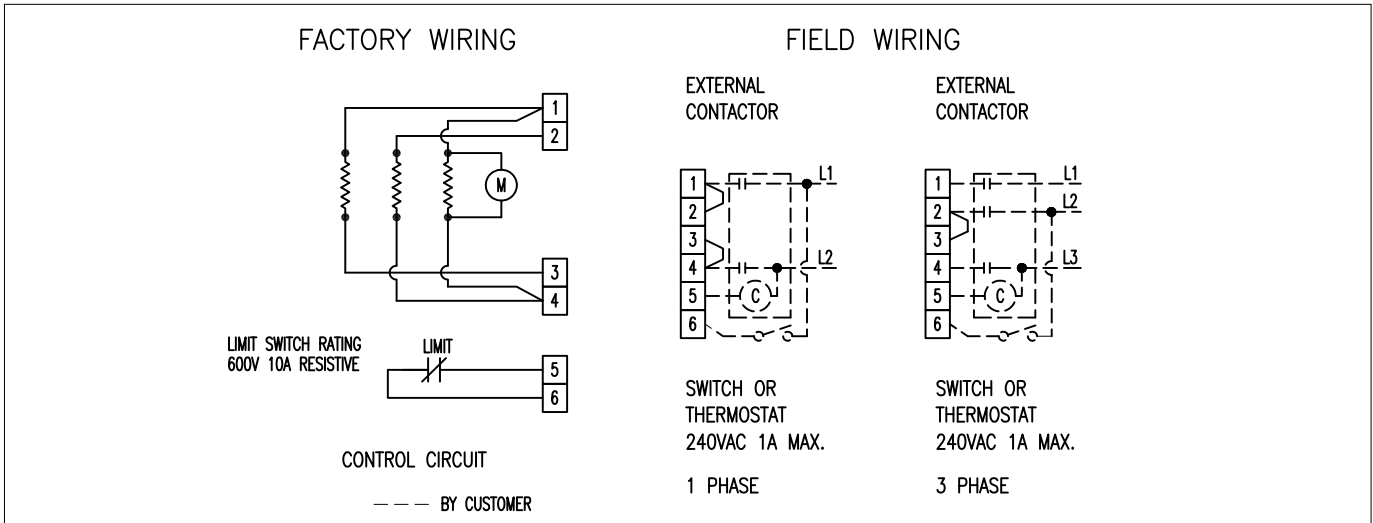

Figure 2E - RGE Series 15–40 kW wiring schematic with hi-limit option. 208–600 V models.
4. Models without a built-in contactor should have the limit switch wired in the control circuit of an external contactor, and for three phase supply, this control circuit should be connected to L2 and L3 which feed the centre heating element, refer to Figure 2E, page 7. The limit switch is rated 600 volts, 10 amps resistive.